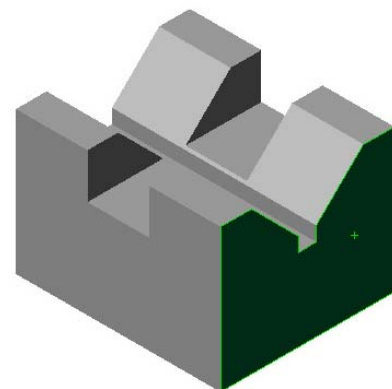

Figure 20 Sketch plane for Trapezoid Slot cut
- 1) Select the same surface as the V-Slot cut as the sketch plane for the trapezoid cut as shown in Figure 20.